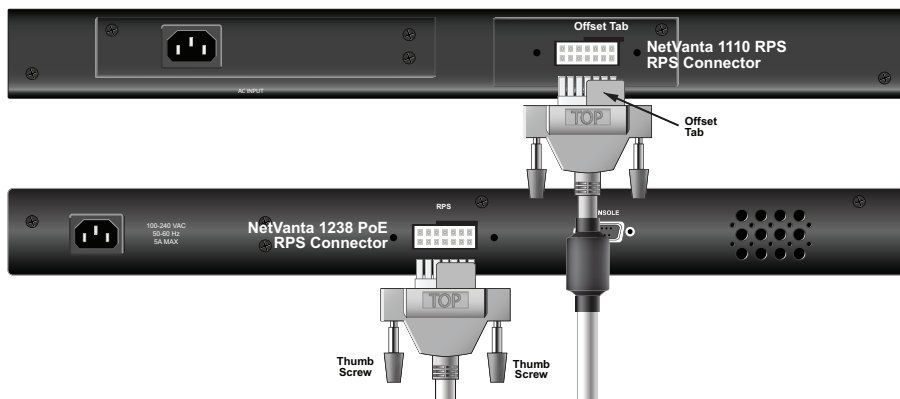

Figure 3. RPS to NetVanta 1238 PoE Connection
2. Compare the **TOP** surfaces of the connectors on either end of the RPS cable. On one connector, the right edge of the tab covering the pins is flush with the pins, while on the other connector, the tab is offset to the right of the pins approximately 0.16 inch (see Figure 3).
3. With the **TOP** surface of the connector with the offset tab facing upward, insert it into the receptacle labeled **RPS OUTPUT** located on the rear panel of the NetVanta 1110 RPS (see Figure 3). Press the connector until the pins are fully inserted and the base of the connector is flush with the unit.
5. With the **TOP** surface facing upward, insert the other RPS connector (with the flush tab) into the receptacle labeled **RPS** located on the rear panel of the NetVanta 1238 PoE (see Figure 3). Press the connector until the pins are fully inserted and the base of the connector is flush with the unit.